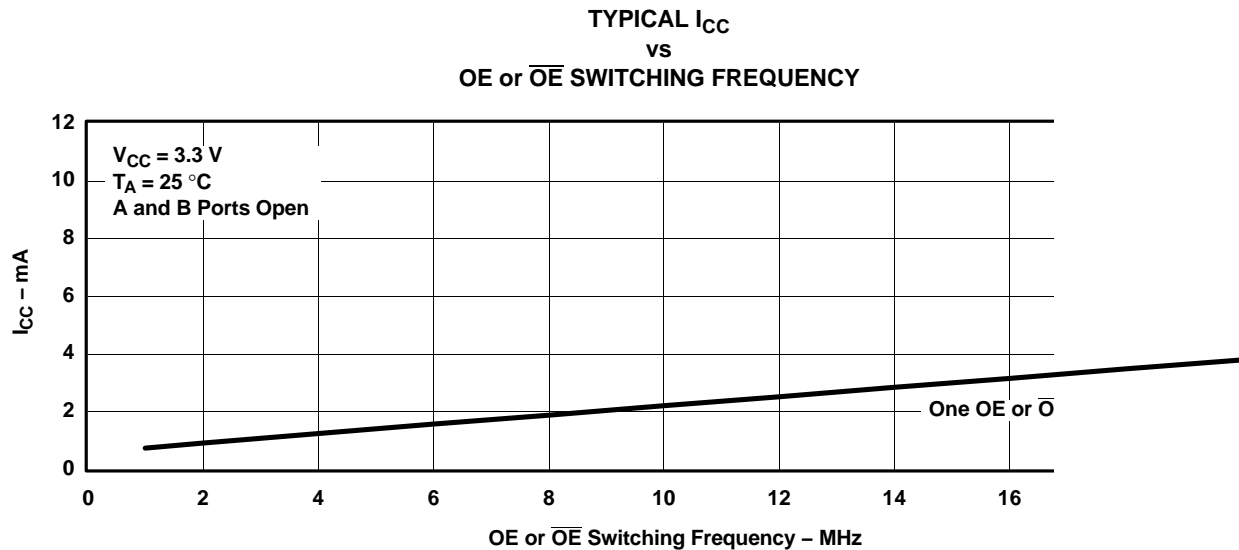

Figure 2. Typical I_{CC} vs OE or \overline{OE} Switching Frequency
(1) V_{IN} and I_{IN} refer to control inputs. V_I, V_O, I_I, and I_O refer to data pins.
(2) All typical values are at V_{CC} = 3.3 V (unless otherwise noted), T_A = 25°C.
(3) For I/O ports, the parameter I_{OZ} includes the input leakage current.
(4) This is the increase in supply current for each input that is at the specified TTL voltage level, rather than V_{CC} or GND.
(5) This parameter specifies the dynamic power-supply current associated with the operating frequency of a single control input (see Figure 2).
(6) Measured by the voltage drop between the A and B terminals at the indicated current through the switch. ON-state resistance is determined by the lower of the voltages of the two (A or B) terminals.